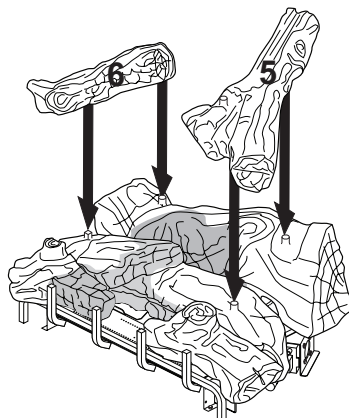

Figure 26 - Installing Logs #5 and #6
4. Place right crossover log (#5) as shown in Figure 26. Match round peg on top of rear log (#1) with round hole on bottom of right crossover log (#5) and square peg on top of middle log (#2) with square hole on bottom of crossover log (#5).
5. Place left crossover log (#6) onto rear log (#1) and middle log (#2). Match round peg on top of rear log (#1) with round hole on bottom of left crossover log (#6) and square peg on top of middle log (#2) with square hole on bottom of left crossover log (#6) as shown in Figure 26, page 18.